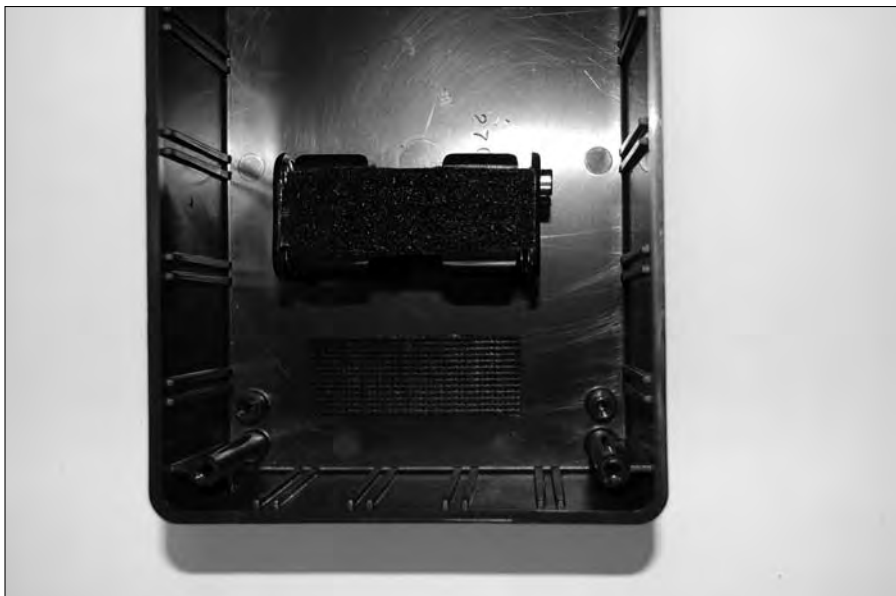

Figure 11-15:
8. Place adhesive-backed Velcro in the box and on the battery pack, as shown in Figure 11-15.